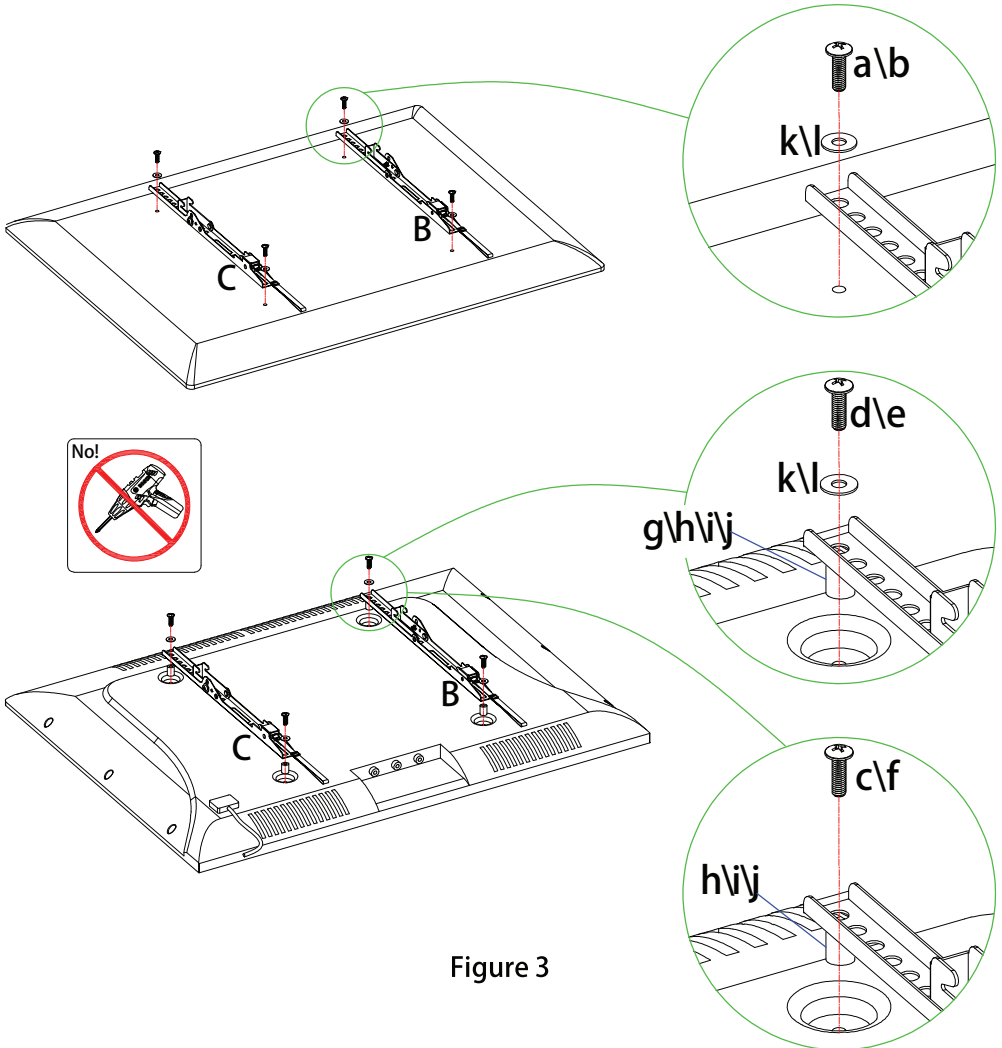

Figure 3
Step 2: Attach TV Bracket (B\C) to the back of TV, choose corresponding bolt, washer and spacer to fix the holes of TV rear. (Figure 3)